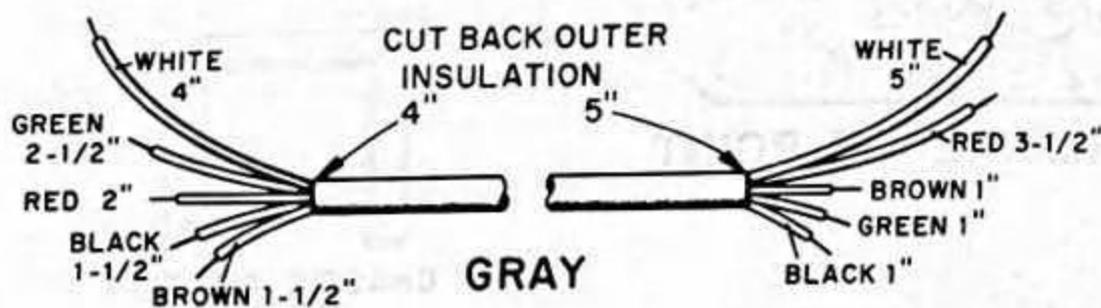

FIGURE 3. PREPARING THE GRAY CABLE
- Gray 5-conductor cable. Remove the outer insulation on each end back to the lengths shown on Figure 3. Be careful not to cut through into the inner wires. Cut the wire ends to the lengths shown. Remove $\frac{1}{4}$ " of insulation from the end of each wire and lightly coat the wire ends with solder.